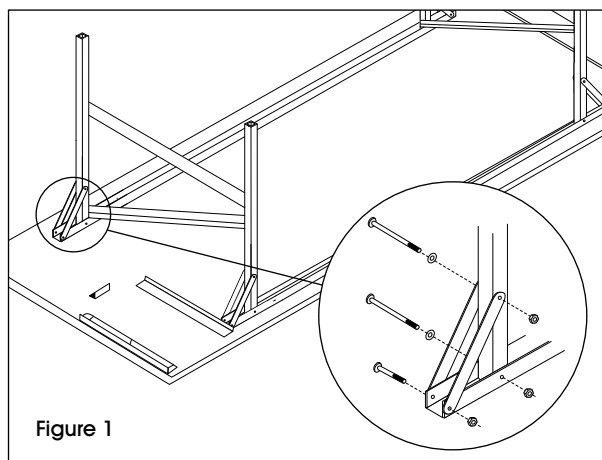

Figure 1
1. Attach the right and left leg assemblies to the pre-attached leg channels. (See Figure 1) Attach front leg assemblies using 1/4 - 20 x 2" hex bolts, washers and nuts. Attach the back leg assemblies using 1/4 - 20 x 4" hex bolts, washers and nuts.